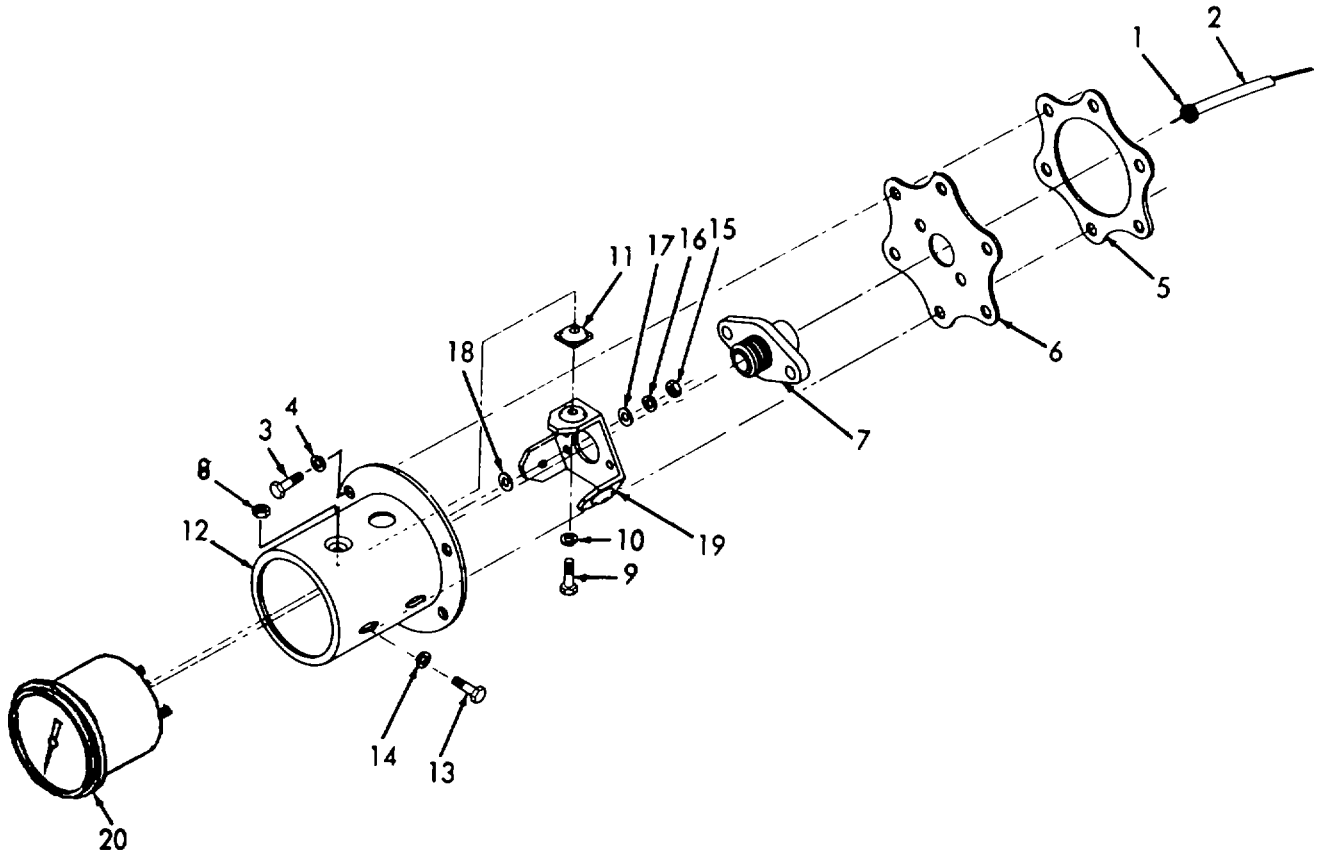

Figure 3-63. Tachometer, Removal/Installation.
**3-29. TACHOMETER - Continued.**a. Removal. (Refer to figure 3-63).
- (1) Loosen nut (1) and disconnect the drive shaft (2).
- (2) Remove four screws (3) and four lockwashers (4) securing the tachometer mounting adapter.
- (3) Remove the cover seal (5), drive cover (6), and cover adapter (7).
- (4) Remove three nuts (8), three screws (9), and three lockwashers (10). Separate the resilient mount (11) and mounting adapter (12) from the tachometer. Remove screw (13) and lockwasher (14) from the adapter.
- (5) Remove two nuts (15), two lockwashers (16), two flat washers (17), two flat washers (18), and separate the retainer (19) from tachometer (20).
- (1) Refer to figure 3-63 and place two flat washers (18) over the mounting studs of tachometer (20).
- (2) Attach retainer (19) to the tachometer using two washers (17), two lockwashers (16) and two nuts (15).
- (3) Install screw (13) and lockwasher (14) in the tachometer adapter (12). Then, mount the assembled tachometer in the adapter with resilient mount (11), three screws (9), three lockwashers (10), and three nuts (8).
- (4) Mount the assembled tachometer to the housing using four screws (3) and four lockwashers (4).
- (5) Install cover adapter (7), drive cover (6), and seal (5). Attach drive shaft (2) and tighten nut (1).